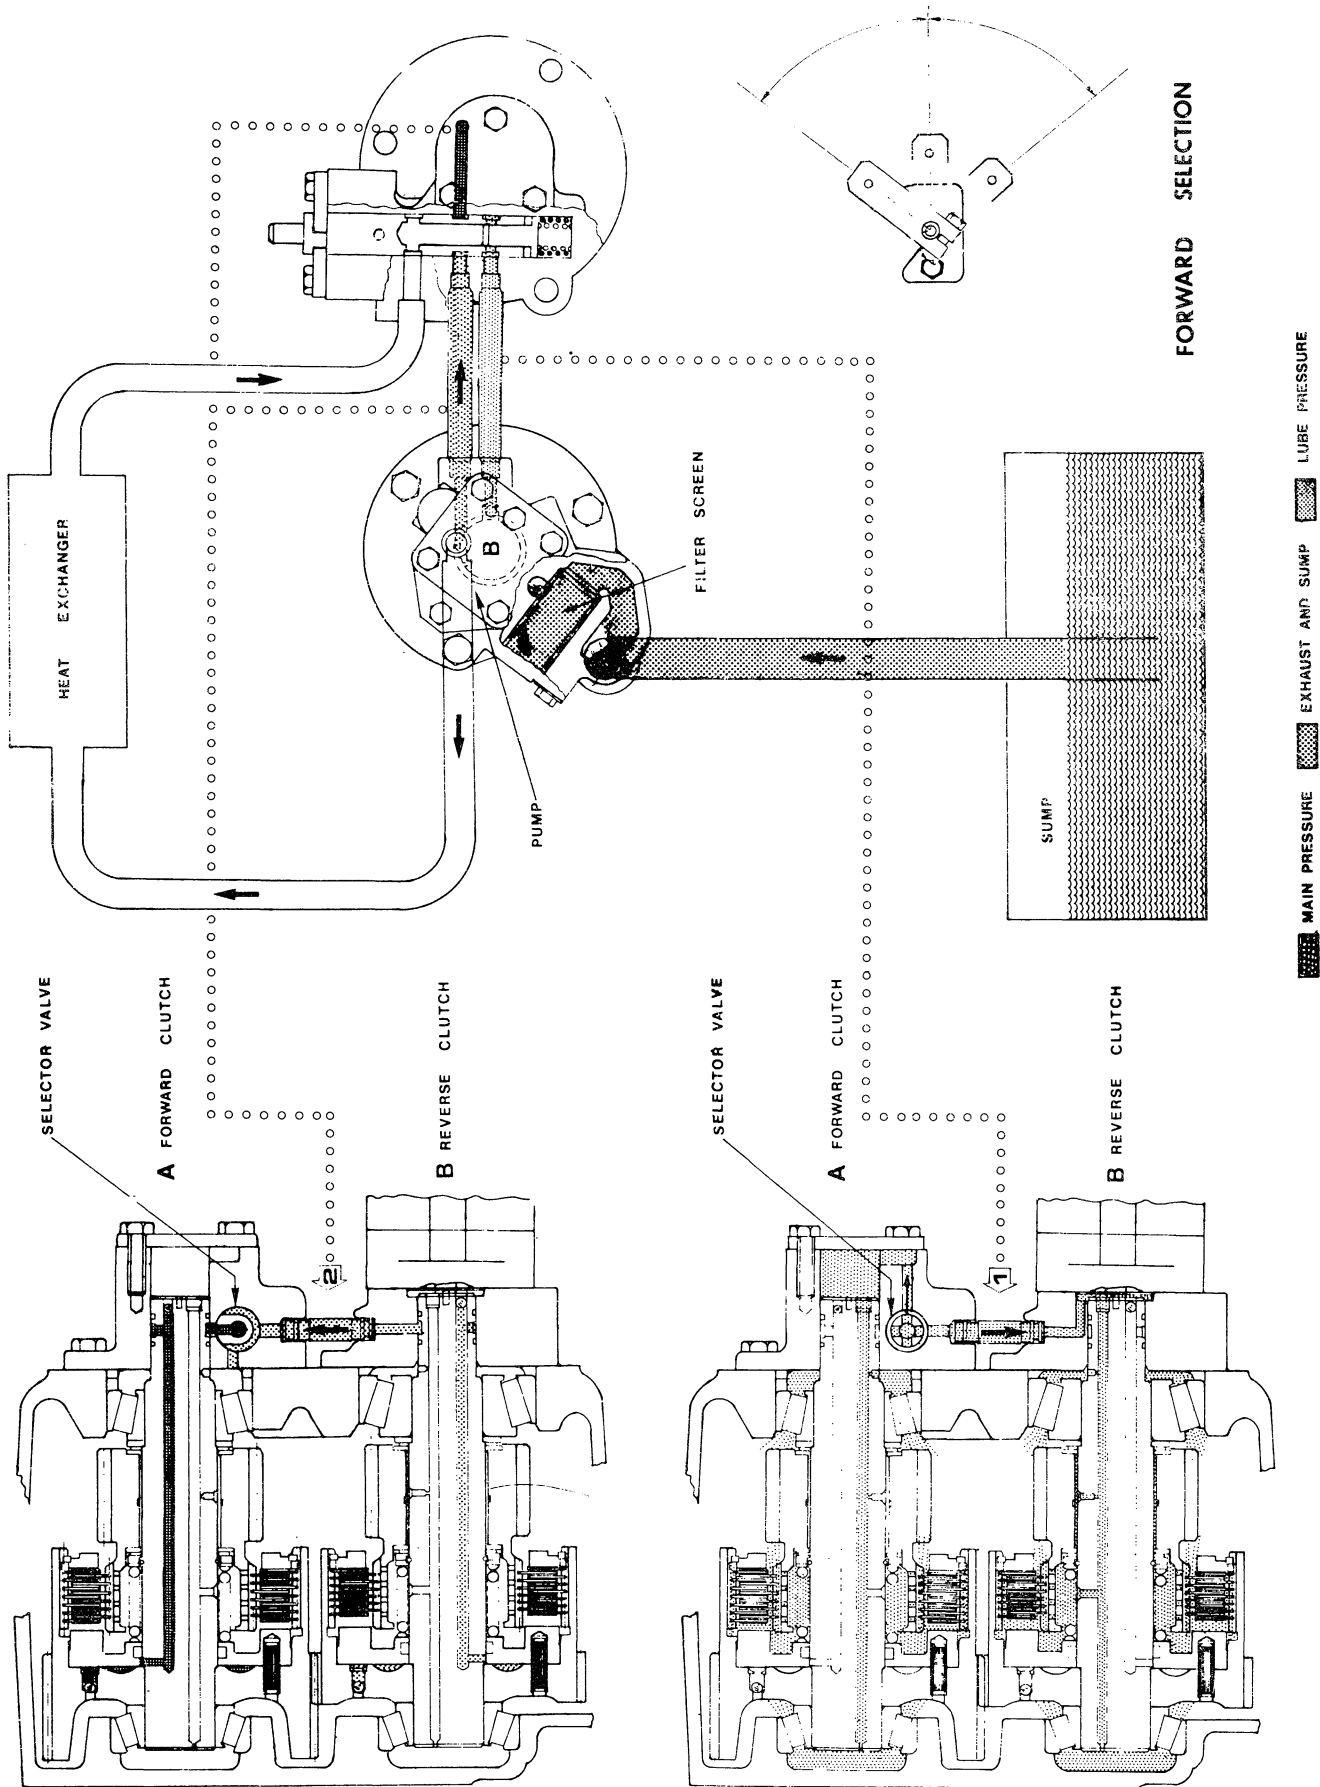

Fig 8 . Marine Transmission oil flow - Forward clutch applied - Schematic drawing.
B. Forward clutch applied (fig. 8). Oil is pressurized by the main regulator valve in the regulator valve body to approximately 250 psi or 310 psi depending on springs used. Oil is routed by the selector valve spool in the valve body to an annular groove and cross drilled hole in the forward clutch shaft. An annular chamber formed in the rear of the clutch shaft is sealed on both sides by piston rings. The cross-drilled hole in the clutch shaft intersects a horizontally-drilled hole in the shaft that is terminated by a ball plug installed in the end of the shaft. A second cross-drilled hole, that also intersects the horizontally-drilled hole, permits the oil to enter the chamber between the forward clutch housing gear and the clutch piston. The oil pressure moves the clutch piston against the clutch plates, and the forward clutch is engaged. Any oil that exists in the reverse clutch is returned to sump by the position of the selector valve the force exerted by the clutch piston spring and a ball dump valve. Overage oil in the regulator valve body chamber passes by the regulator valve and enters the lube oil tube for cooling and lubricating functions as described in Neutral.